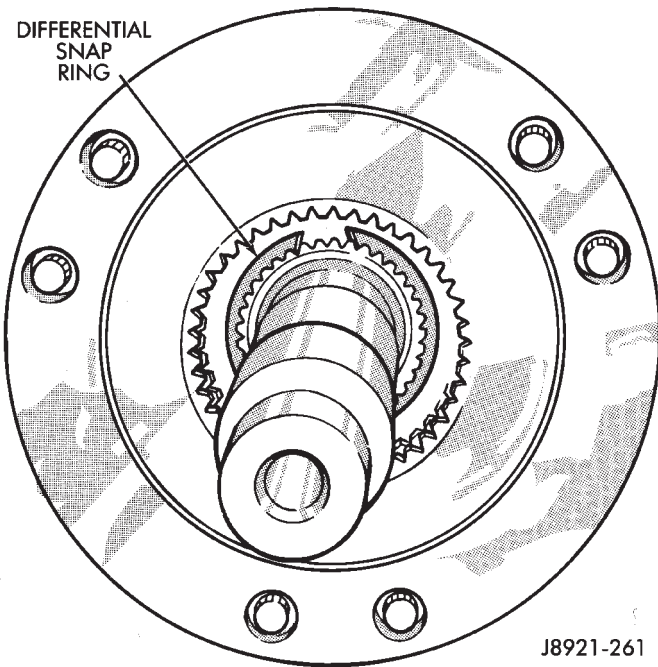

Fig. 27 Removing Differential Snap Ring
(34) Remove differential snap ring (Fig. 27).